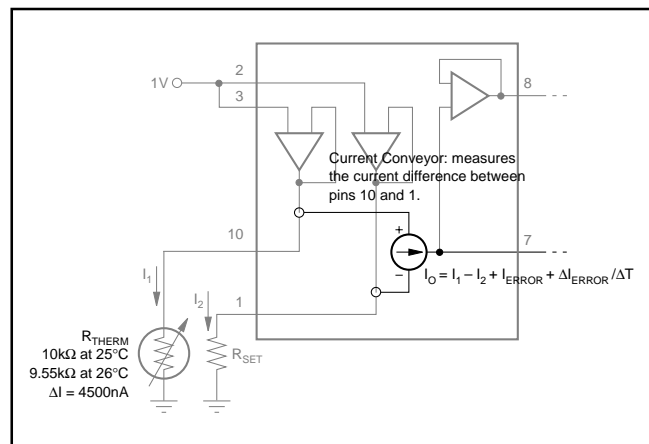

FIGURE 2. Current Conveyor Portion of the INA330.
NOTES: (1) Total errors in voltage seen between pin 1 and pin 10. (2) See Figure 2.
The INA330 errors are extremely low. The primary errors in the INA330 occur in the current conveyer circuitry, as shown in Figure 2. Equal currents in R_{SET} and R_{THERM} produce a small output current error of 200nA (maximum), and some variation with temperature of 40nA (maximum). The offset is calibrated out. Only the variation affects set-point stability.